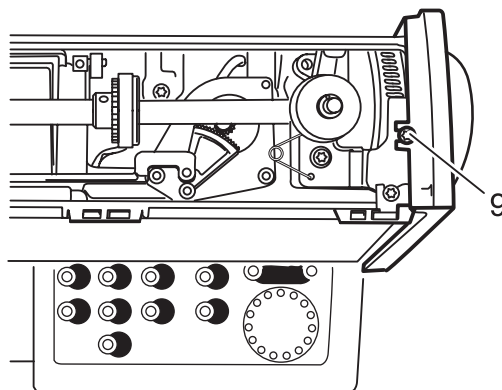

Fig. 8
- Loosen screw 9 on the stand cover (fig. 8).